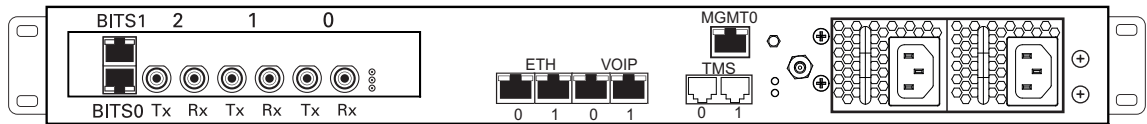

Figure 2.5
A 3200-DS3 with 3 sets of BNC connectors enables the connection to DS3 lines. See figure 2.5 on page 20.
1. Start with the Dual BNC port pair #0 (right-most) as shown in figure 2.5 on page 20. Connect one pair of BNC cables between this port and the DS3 line.